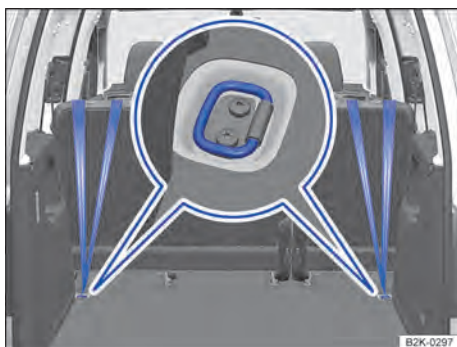

Fig. 45 Outer seats in second seat row: top tethers fitted in the luggage compartment.
6. Guide the top tether on the child seat behind the seat and hook it into the fastening rings → Fig. 45, → Fig. 46 or → Fig. 47.